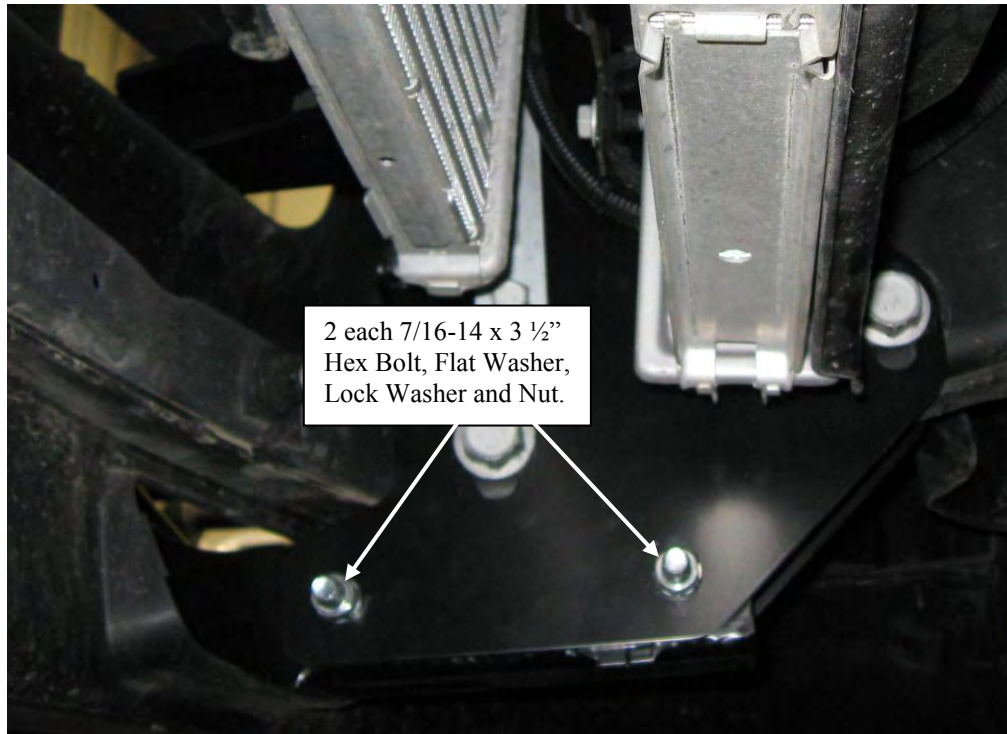

Figure 5: Large Frame Carrier: Lower bolt position.
6. Install 3 each 1/2-13 x 1 1/2" Hex Head Bolts through the three holes on the right side of the carrier plate and through the bottom bracket as shown in **Figure 5**. Install a flat washer, lock washer, and nut on the bolt. Repeat for the opposite side. Do not tighten any hardware yet.